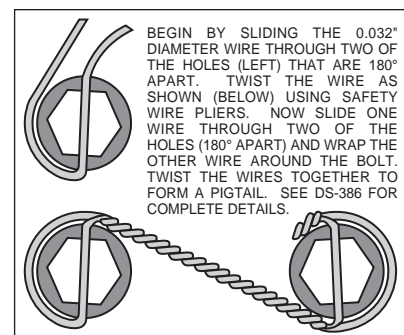

Figure 3. Safety Wire Diagram
- Install wheel studs (8) into the hub (9). Torque to 77 ft-lb. **NOTE:** There are two five lug patterns in the hub (5 x 4.50 and 5 x 4.75). Make sure of the correct hole pattern for the correct wheel application before installing studs into hub.
- Pack the large inner bearing cone (10) with high temperature disc brake bearing grease (available from your local auto parts store) and install into the backside of the hub (9).
- Install the grease seal (11) by pressing into the backside of the hub (9).
- Pack the small outer bearing cone (17) with high temperature disc brake bearing grease and install into front of hub (9). Slide the hub assembly (8, 9, 10, 11 and 17) onto the spindle. Secure using spindle washer (18), stock adjusting nut and nut locking device. Bearing adjustment: Tighten the nut while turning the hub. When there is a slight bind on the bearings, they are seated correctly. Back the nut off about 1/6 to 1/4 of a turn, or sufficiently to allow .001" to .007" end play. **WARNING:** Failure to back off adjusting nut could cause bearing to run hot and be damaged, which could cause the wheel to lock or come off.
- Install the o-ring (19) on the dust cap (20), and screw dust cap assembly onto the hub (9). Friction created by the o-ring (19) on the dust cap (20) keeps it from unscrewing.
- With the larger I.D. side of the rotor (12) facing away from the hat (13), bolt rotor (12) to hat (13) through the backside of the rotor using washers (14) and bolts (15). Using an alternating sequence, apply red *Loctite*® 271 to the threads and torque bolts to 155 in-lb. For an added measure of security, the bolts may be safety wired using standard 0.032 inch diameter stainless steel safety wire as shown in Figure 3. Please refer to Wilwood's data sheet DS-386 (available at www.wilwood.com/Pdf/DataSheets/ds386.pdf) for complete safety wire installation instructions.
- Slide the rotor/hat assembly over the studs (8) in the hub (9) taking care to align the small countersunk holes in the hat (13) with the small threaded holes in the hub (9). Install three flat head socket head screws (16) through the small holes in the hat (13) and torque to 85 in-lb.